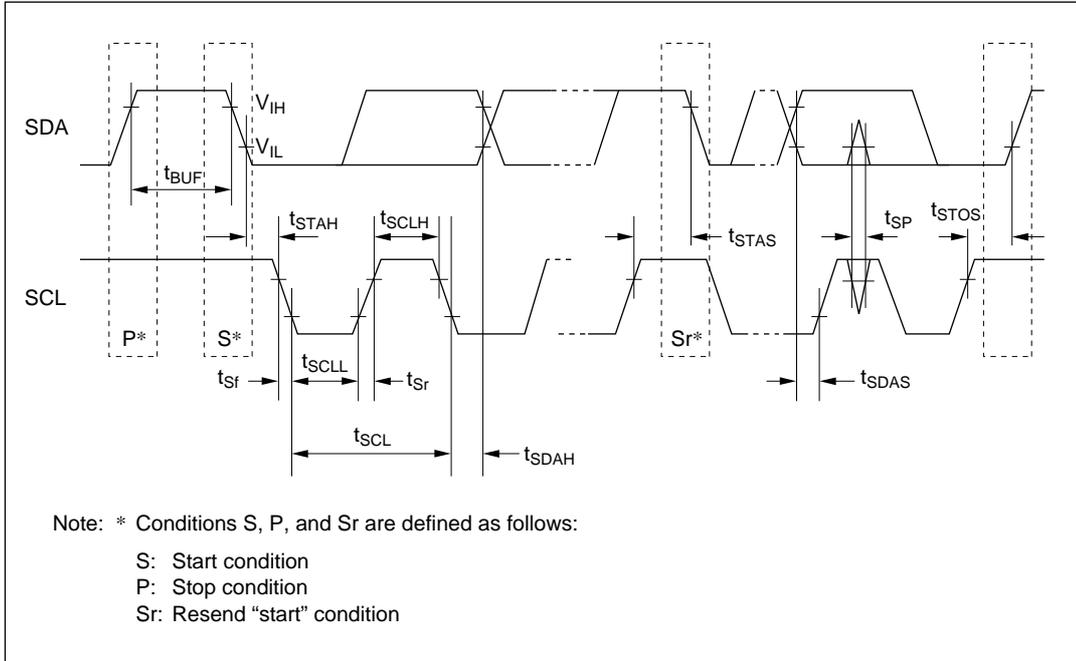

Figure 20-21 I²C Bus Interface I/O Timing
20.3.9 I ² C Bus Timing	Figure 20-21